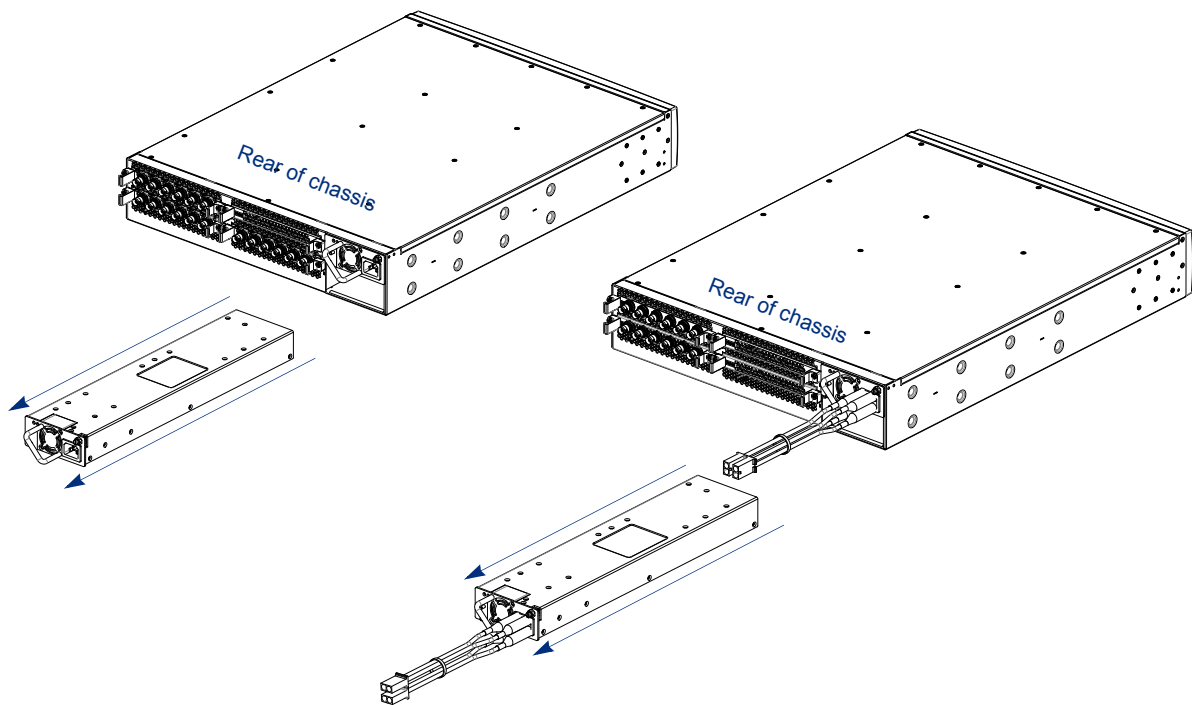

Figure 290. Power supply removal (AC power, left; DC power, right)
6. Pull gently but firmly, sliding the power supply out of the bay as shown in Figure 290.